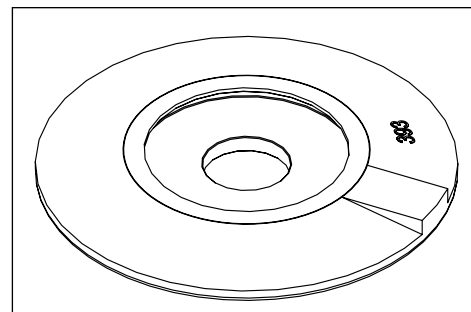

Fig. 11-6
- Diaphragm Plate See Fig. 11-6